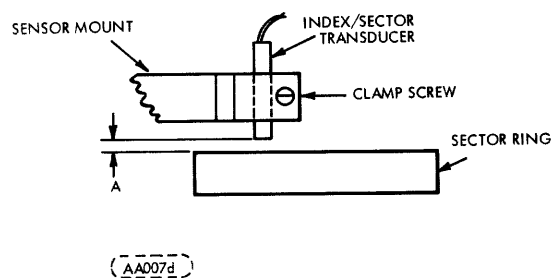

FIGURE 6-23. FIXED DISK INDEX/SECTOR TRANSDUCER ADJUSTMENT
6. Using plastic shim stock, check clearance A (Figure 6-23). Clearance should be between $0.010 + 0.003, -0.000$ inch ($0.25 + 0.076, -0.000$ mm). If clearance is out of tolerance, loosen transducer clamp and slide transducer in or out to adjust for proper clearance.